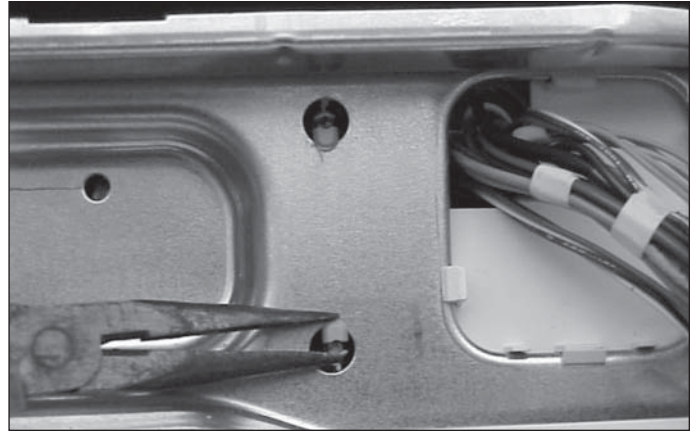

Figure 4-34.
3. Using needle nose pliers, release the mounting bracket from the control mounting brace. (See Figure 4-34)